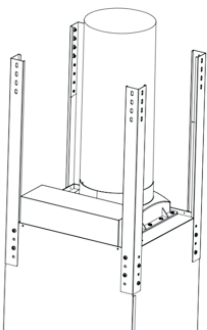

Fig.5
5. Fix an exhaust pipe(Local sourcing) inside the truss and connect it to the motor adaptor as shown Fig.5